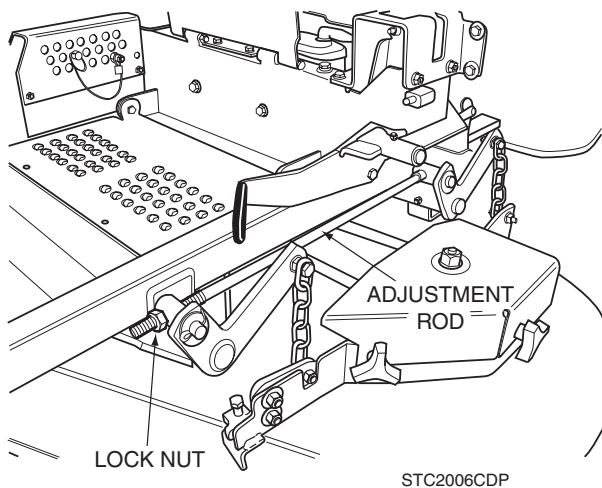

Figure 6-5. Cutter Deck Level Adjustment
1. Loosen the jam nut on both adjusting rods. See Figure 6-5.
3. Tighten or loosen the adjusting bolt as needed to achieve the 0.015 inch airgap. See Figure 6-5. Perform this operation at all three inspection windows.